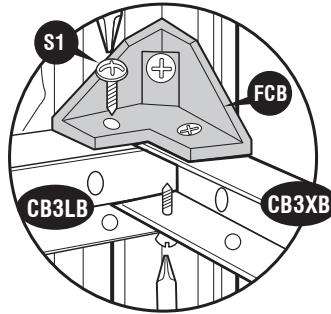

Fig.2: Use (S1) screws. Fix (CB3LB) to (FCB) and (CB3XB).
20. Stabilize the side panels with center bands (**CB3LB**) & (**CB2B**). Fix the **center band fitting (FCB)** to **corner column (CCB)**. See Fig.1 Follow the Fig. 2, 3, 4 & 5.